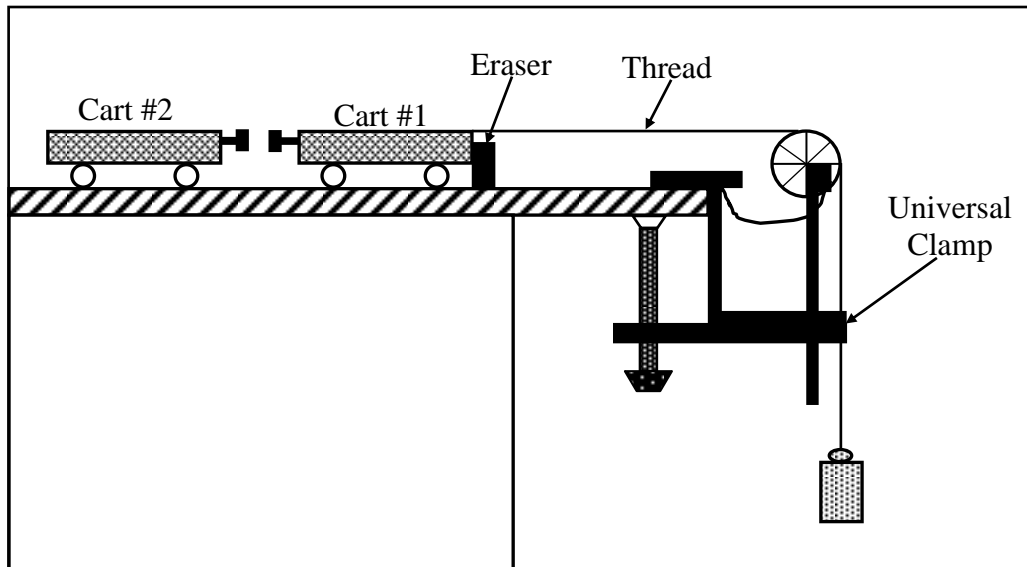

Figure 10.6: Equipment setup for elastic collision
- 1- Set up the apparatus as shown in Fig.10.6. In order to create an elastic collision, attach a piece of thread to cart #1. The thread should be about 10 cm longer than the distance from the cart to the floor. Connect the Smart Pulley to your computer, and make sure the proper connections have been made before going on.